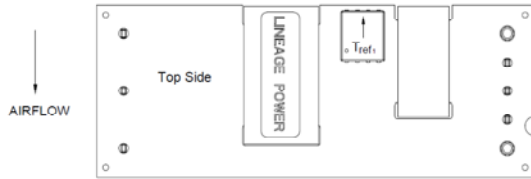

Figure 13a. T_{ref1} Temperature Measurement Location for Open Frame Module.
The thermal reference points, T_{ref1} , T_{ref2} and T_{ref3} used in the specifications for open frame modules are shown in Figures 13a and 13b. For reliable operation these temperatures should not exceed 125°C, 110°C and 105°C respectively.